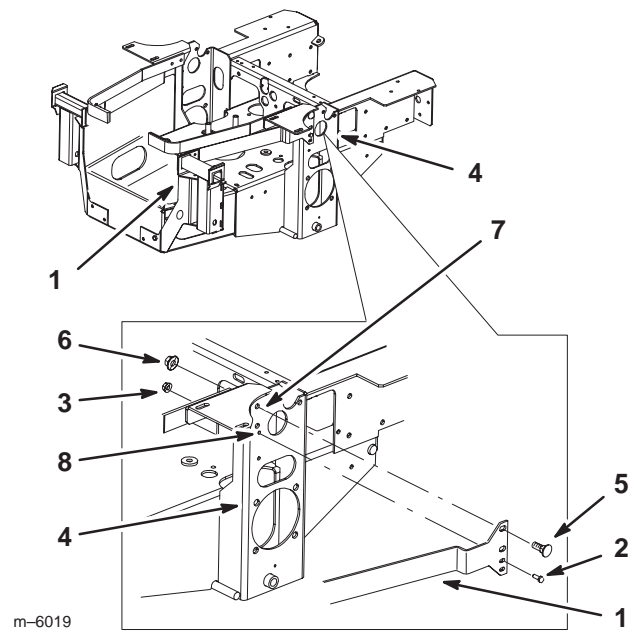

Figure 11
2. Using the existing 1/4 in. hole in the side frame, loosely install the bagger mounting bracket to the side frame with 1 bolt (1/4 x 3/4 in.) and 1 flange nut (1/4 in.) (Fig. 11).
3. Using the two holes drilled in the side frame, loosely install the bagger mounting bracket to the side frame with 2 carriage bolts (3/8 x 7/8 in.) and 2 flange nuts (3/8 in.) (Fig. 11).
4. Tighten the bagger mounting bracket to the side frame (Fig. 11). See torque table.